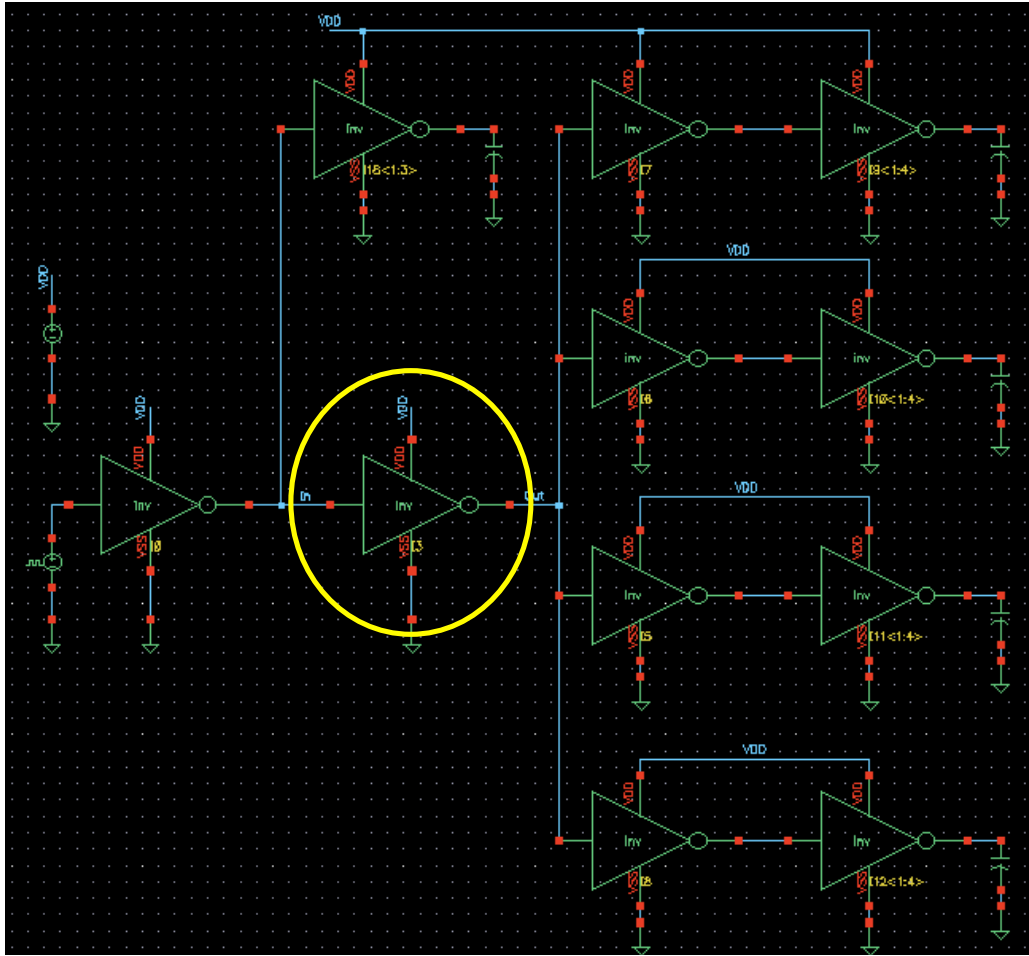

Figure 3 Simulation Schematic from Homework #1.
4. Now that we have the equivalent resistance and capacitance extracted, let us put them to use and compute the propagation delay of the FanOut-4 inverter in homework #1 (Fig. 3). Recall that your simulated result in homework #1 was
There is apparently large discrepancy between calculation and simulation, owing to several factors (model approximation, un-equal pull-up and pull-down, etc.). But the biggest factor is the finite rise and fall time at the inverter's input. The $0.69 \times R \times C$ equation assumes step input. Actual input to the inverter however has finite slope. The simulated result is hence the sum of its step response time and the ramp time of input. As a matter of fact propagation delay at the inverter's input in Fig. 3 is
5. Next we will research on another important aspect of digital circuit design: energy. Use the capacitance estimated in Parts 2 and 3, calculate dynamic power dissipation of the inverter circled in Fig. 3, then compare it with simulated average power dissipation. To isolate the inverter from rest of the circuit, a simple method is to insert an arbitrarily small resistor in series with the inverter's supply (Fig. 4). (6 pts)